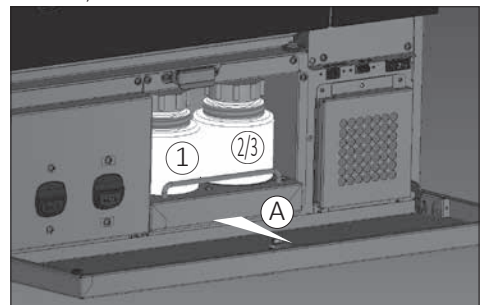

Fig. 11.1
The liquid containers are positioned at the bottom of the machine, inside a door closed with a key (Fig. 11.1 and 11.2).
- 1) Open the door with the key and pull manually the drawer (A Fig. 11.1).